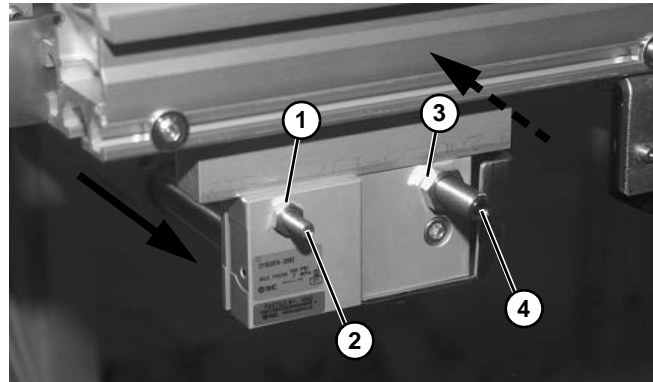
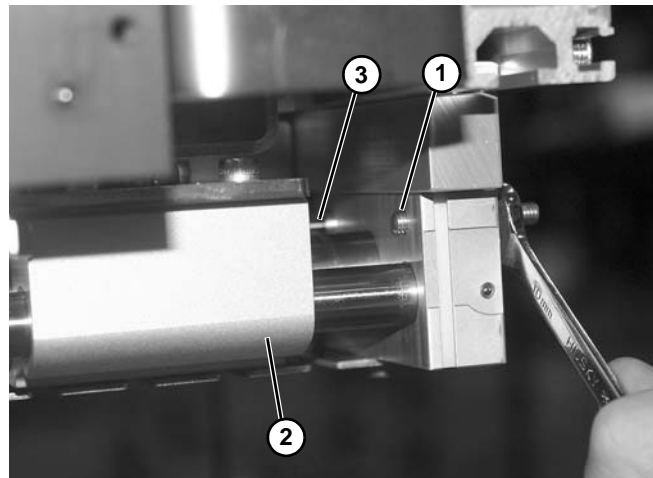

Figure 88
Figure 89
1. To adjust outward stroke distance (limit), loosen jam nut (Figure 88, item 1) from stud (Figure 88, item 2) on the left side of cylinder assembly.
2. Adjust stud (Figure 89, item 1) clockwise or counterclockwise to limit pusher (Figure 89, item 2) path. Tighten jam nut to secure position.
3. Repeat for inward return switch (Figure 89, item 3) by loosening jam nut (Figure 88, item 3) and turning stud (Figure 88, item 4) to desired setting. Tighten jam nut to secure position.